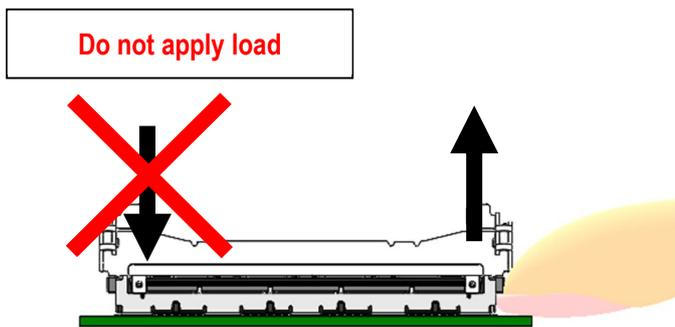

Fig.21
- When removing it, please ensure no load is applied to the top surface of the connector (see Fig. 21).